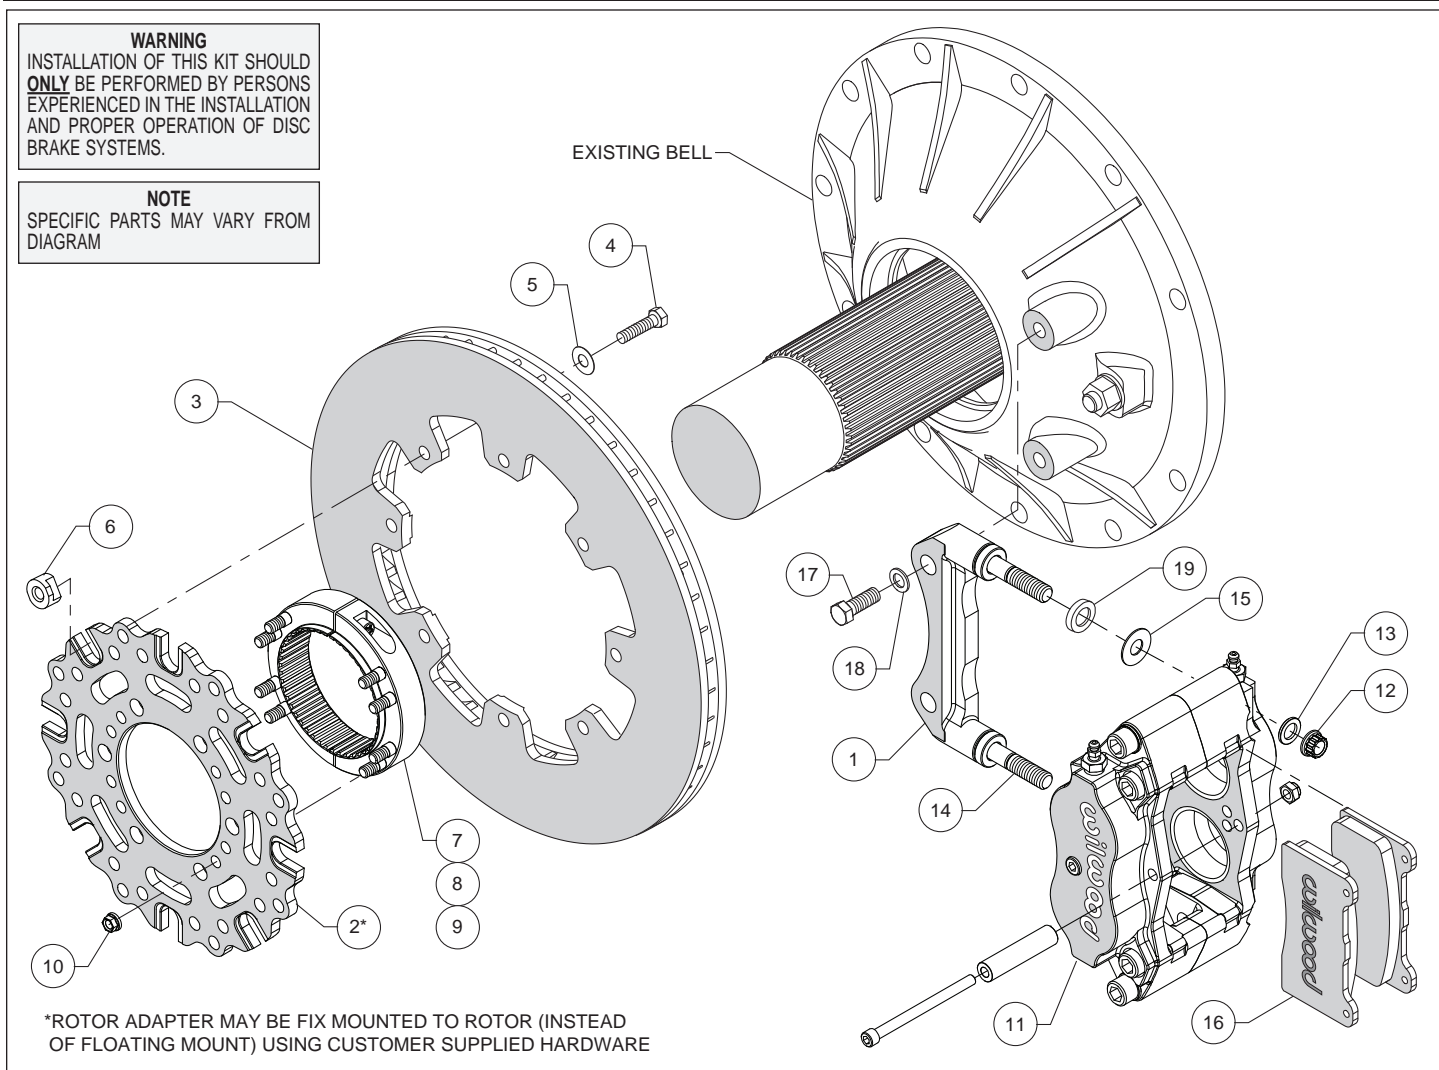

Figure 1. Typical Installation Configuration
• Orient the caliper mount bracket (1) as shown in Figure 1 and install using bolts (17) and washers (18). Temporarily tighten the mounting bolts. **NOTE: The bracket must fit squarely against the mount bosses on the bell.** Inspect for interference from casting irregularities, machining ridges, burrs, etc. Remove the bracket mounting bolts one at a time, apply red *Loctite*® 271 to the threads, and torque to 60 ft-lb.
• Orient the rotor adapter (2) and the rotor (3), as shown in Figure 1, and attach using bolts (4), washers (5) and t-nuts (6), Figure 1. Apply red *Loctite*® 271 to the bolt threads before installing. Finger tighten. After all t-nuts have been installed, torque bolts in an alternating sequence to 220 **in-lbs**. Please refer to Wilwood's data sheet DS-669 (available at [www.wilwood.com/Pdf/DataSheets/ds669.pdf](http://www.wilwood.com/Pdf/DataSheets/ds669.pdf)) for complete t-nut bolt kit installation instructions. **NOTE: Rotor adapter may be fix mounted to rotor (instead of floating mount) using customer supplied hardware.**
- Orient the axle clamp assembly (7, 8 and 9, pre-assembled) as shown in Figure 1 and install onto the rotor adapter (2) using nuts (10). Tighten nuts part way while still allowing clamp-to-rotor movement. The nuts will be torqued later, after aligning the rotor. **NOTE:** *The axle clamp should be positioned inside of the rotor as shown in Figure 1, not offset, or outside of the rotor adapter.*
- Lubricate the caliper mounting studs (14) with lightweight oil. Initially place one .030" thick shim (15) and one spacer (19) on each stud as shown in Figure 1. Mount the caliper (11) onto the bracket (1) using lock nuts (12) and washers (13), Figure 1. Temporarily tighten the lock nuts and view the rotor through the top opening of the caliper. The rotor should be centered in the caliper. If not, slide the rotor/adaptor assembly on the axle until the rotor is centered in the caliper. Tighten the clamp bolts (9) first, locking the clamp to the axle. Torque nuts (10) to 140 **in-lbs**.
- Remove the caliper center bridge pad retainer bolt, nut, and tube from the caliper. Insert the brake pads (16) into the caliper, with the friction material facing the rotor. Check that the top of the brake pad is flush with the outside diameter of the rotor. If not, adjust by adding or subtracting shims (15) between the caliper and the bracket. After the caliper pad height is set, torque the caliper lock nuts (12) to 30 ft-lb. Secure the brake pads in place with the center bridge pad retainer tube, bolt, and locknut. The locknut should be snug without play in the bolt or tube. Be cautious not to over tighten.